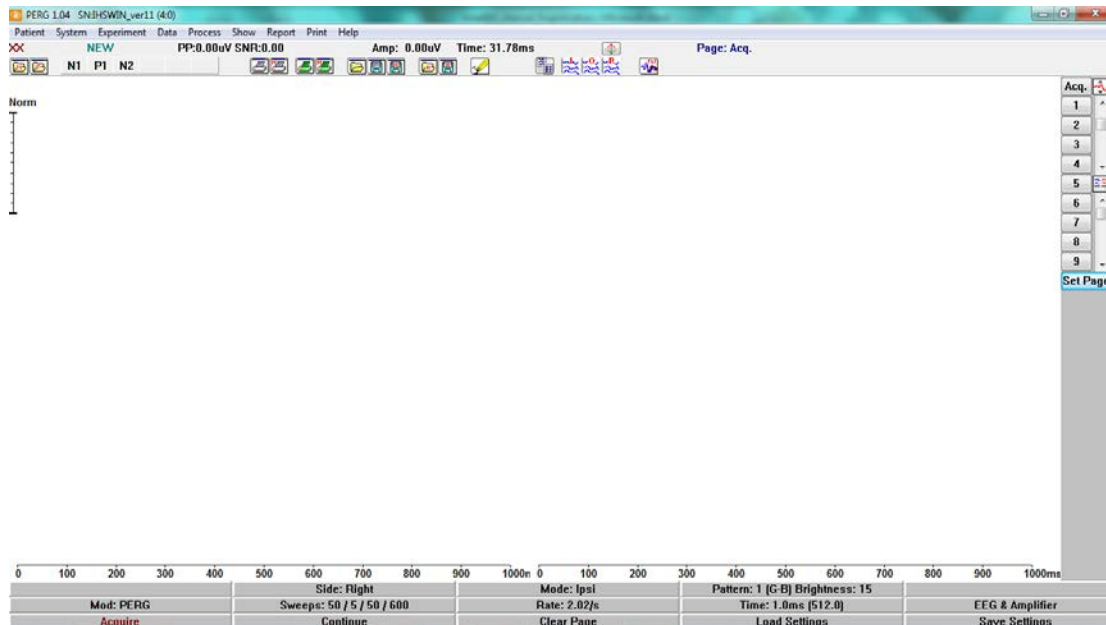

Fig. 1. - PERG Main Window
- **Title Bar:** The Title Bar is the top-most blue bar shown on Fig. 1. This bar contains the name of the program, software version number, system serial number (as SN:IHSXXXX), and hardware identification (as hardware type code and hardware serial number).